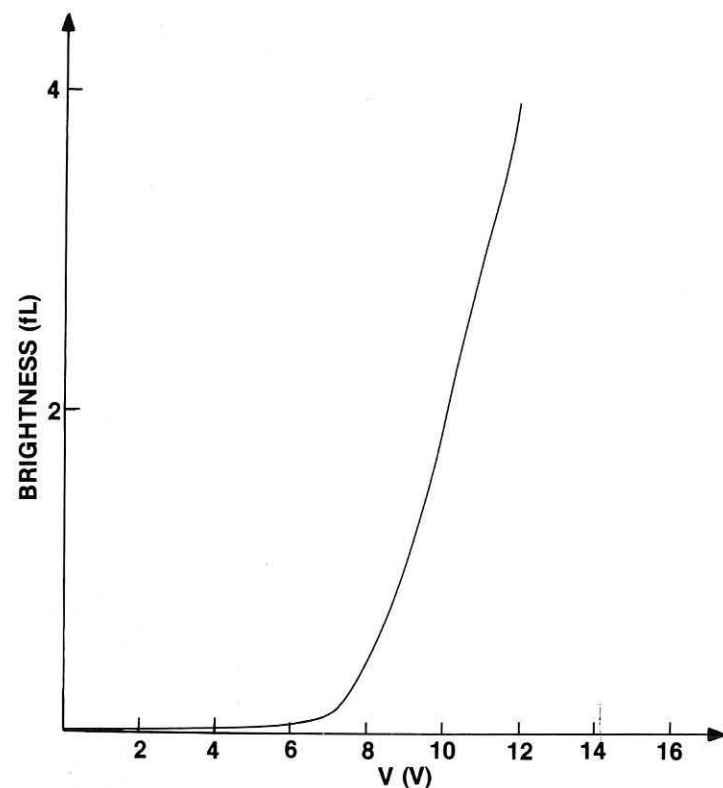

Figure 12. Brightness versus voltage characteristic of dc EL thin film made at C.N.E.T. in France.
**4.2. Performance:** These devices resemble in many aspects powder dc EL displays, especially with regard to the required forming process and the localization of EL in a narrow region close to the positive electrode. Toward the end of the forming process, the device emits appreciable light ( $\sim 5850 \text{ A}^\circ$ ) at low voltages. Figure 12 is a plot of the brightness versus voltage, where the steepness of the characteristic becomes noticeable at higher voltages, and a discrimination ratio of more than  $10^4$  is typical.